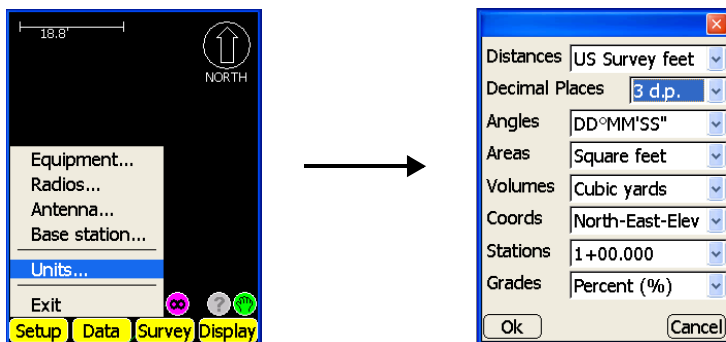

Figure 2-1. View and Select Units
1. Open **Pocket-3D** on the Pocket-PC, press **Setup ▶ Units** (Figure 2-1) to set unit parameters for the job.
2. On the **units** dialog box, select the desired units for each item from the drop-down lists (Figure 2-1). Press **Ok** to continue; Pocket-3D saves the entered units.